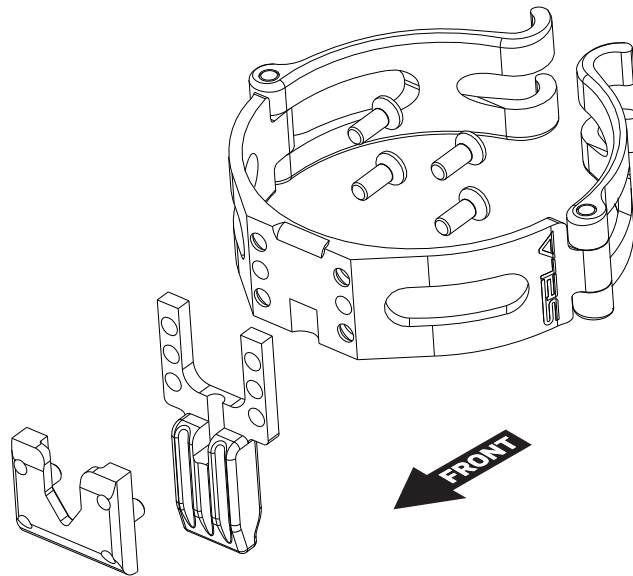

Figure 1: Exploded view of fork ring assembly showing correct part orientation.
- Mate the receiver/spacer combination to the fork ring. Note the radiused edge on the front side of the fork ring. This edge should point in the same direction as the v-grooved end of the receiver/spacer combination (see **Figure 1** above).